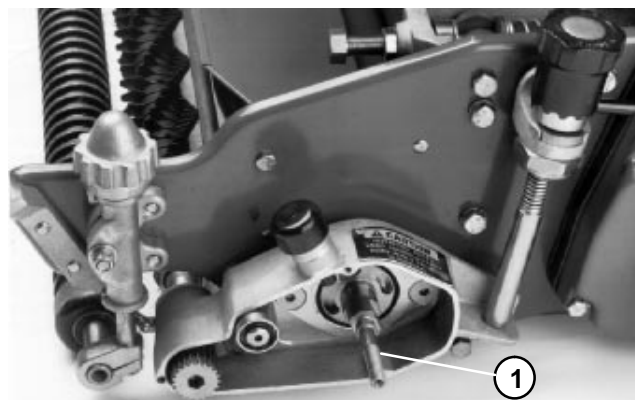

Figure 24
12. Secure cutting reel from turning with a block of hard wood. Remove clutch adapter from reel shaft (Fig. 24).